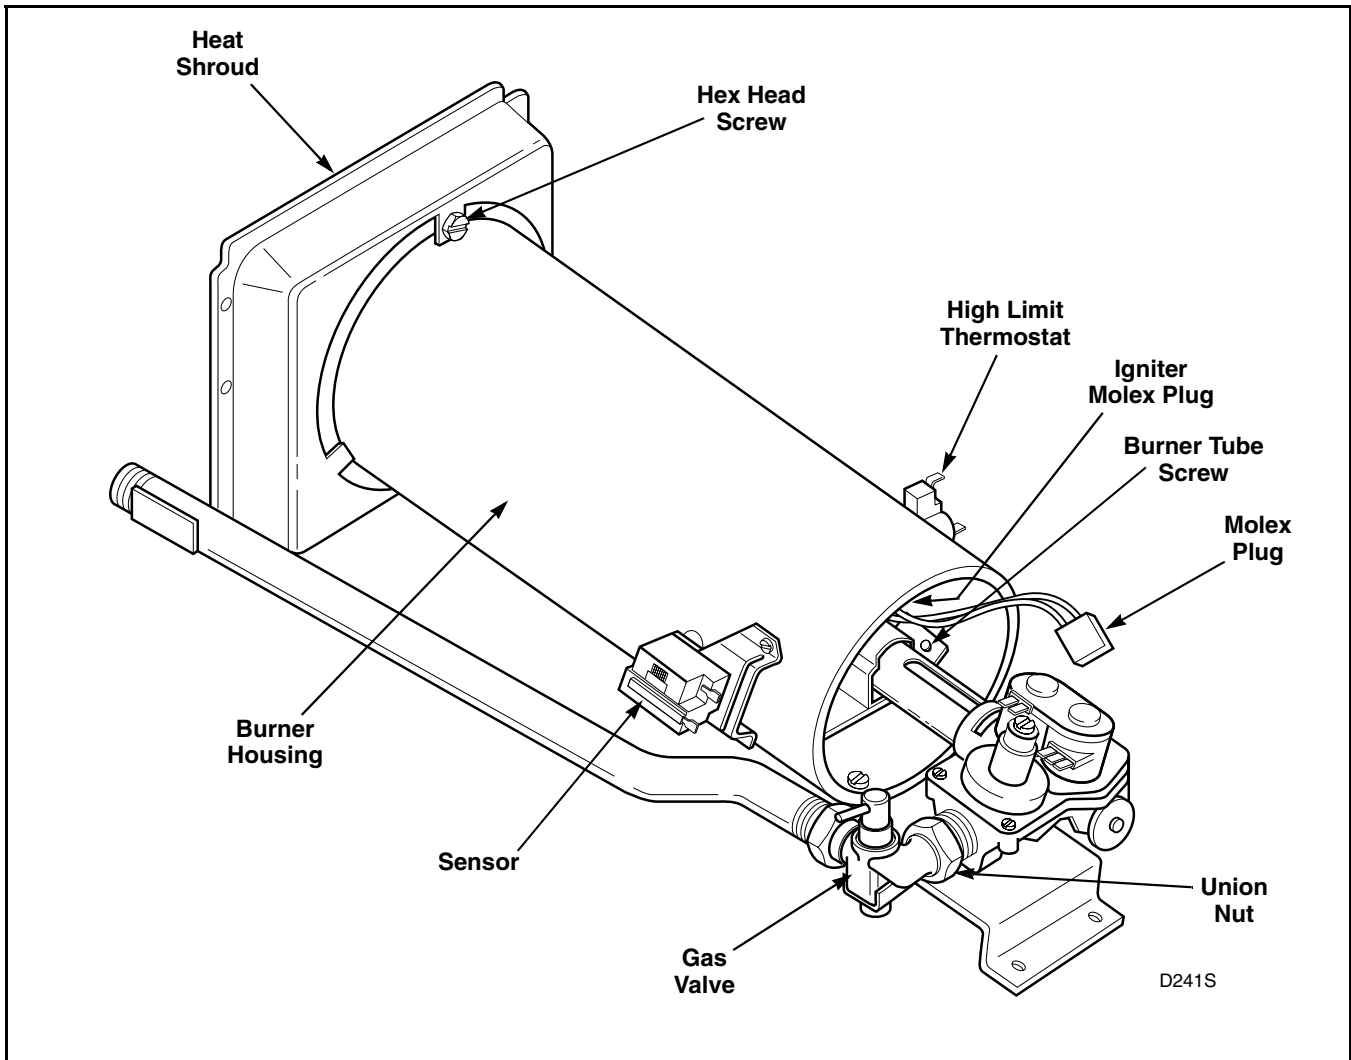

Figure 6
Refer to *Figure 6*
- (2) Gently move burner tube toward rear of dryer to disengage tab from slot on left side of burner housing. Refer to *Figure 6*.
- (3) Carefully rotate burner tube and igniter **counterclockwise** so tab is at 8 o'clock position.
- (4) Move air shutter end of burner tube slightly to right and **CAREFULLY** remove burner tube and igniter assembly out through front of dryer.
To Test Sensor Refer to Figure 6
Refer to Figure 6
- g. Gently move burner tube toward rear of dryer to disengage tab from slot on left side of burner housing. Refer to *Figure 6*.
- j. Remove hex head screw holding burner housing to heat shroud and remove housing out through front of dryer. Refer to *Figure 6*.
- c. Remove four hex head screws holding shroud to heater box and remove shroud out through front of dryer. Refer to *Figure 6*.